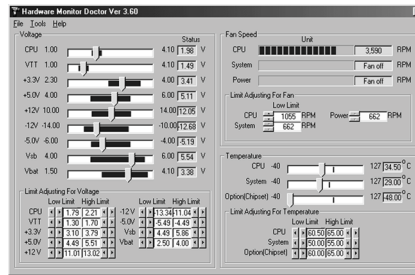

Figure 7
- Then click on the “HardWare Doctor 360”, the screen will appear Figure 7. Set the threshold you want for system temperature, voltages and fan speed, by moving the slide bar or by clicking the increase/decrease buttons.